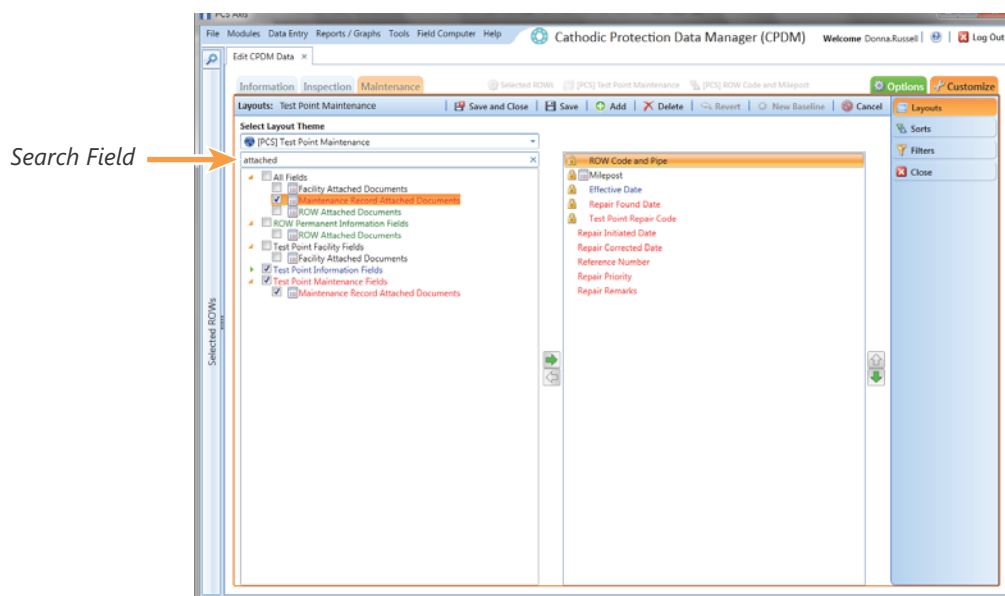

Figure 6-82. Layouts
- Click the check box for the field **Maintenance Record Attached Document** in the left pane of the window (Figure 6-82, page 256).